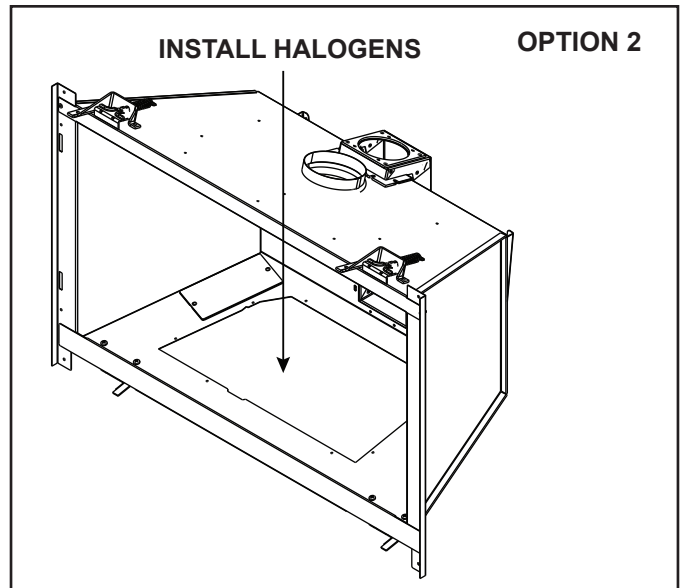

Figure 6.7 Through Valve Plate Opening (Option 2)
- Remove appliance front, glass, logs, base pan assembly, burner assembly and valve plate assembly. See Figure 6.7.